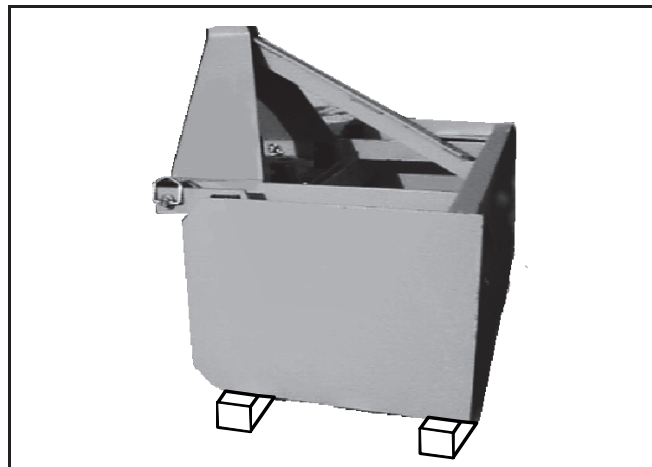

Figure 3. Box Blade Blocked Up
Refer to Figure 3, page 13 and block up box blade securely.
1. Place two 4" x 4" (10 cm x 10 cm) blocks under each side frame of the box blade as shown in Figure 3.
1. Block up machine (see Figure 3).
To service the box blade when attached to the tractor, it must be blocked up off the ground (see Figure 3).